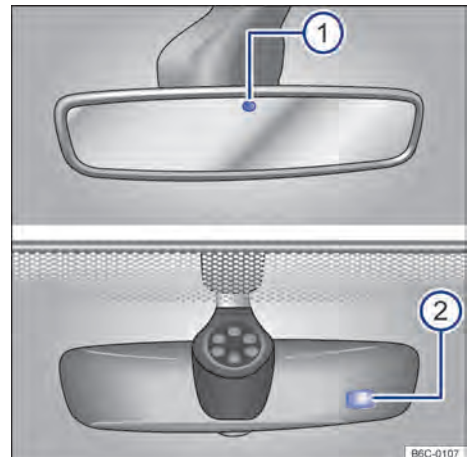

Fig. 78 On the windscreen: automatic anti-dazzle interior mirror. ▶
With the ignition switched on, the sensors measure the incidence of light from behind → Fig. 78 ① and from the front ②.